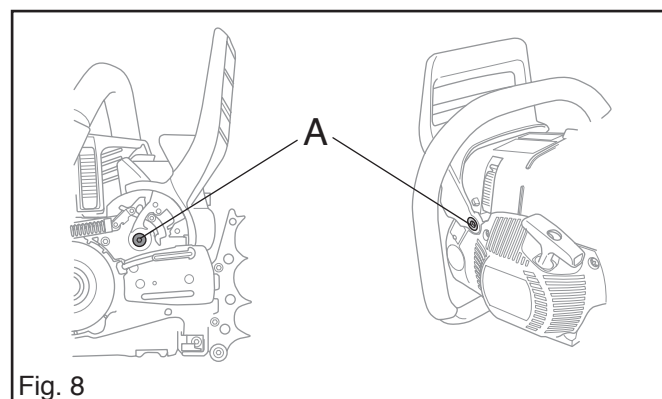

Fig. 8
8. Fit the hand guard with the sleeve on the starter side. See fig. 8.